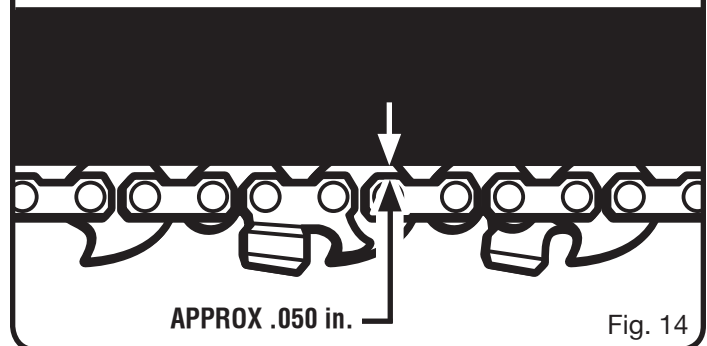

Fig. 14
- During normal operation, the temperature of the chain will increase. The drive links of a correctly tensioned warm chain will hang approximately .050 in. out of the bar groove, as shown in figure 14.